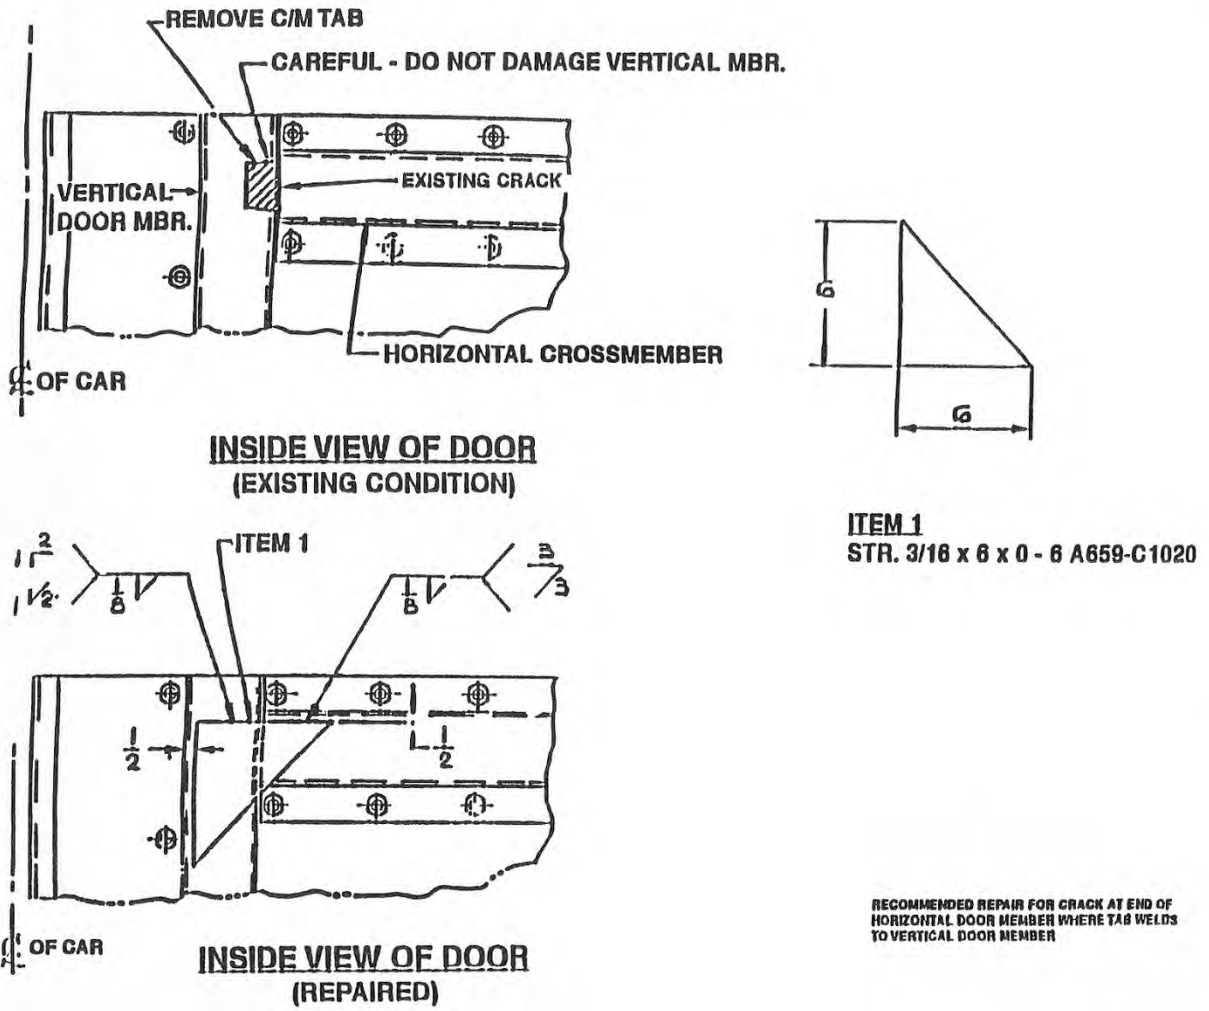

Figure 18
1. If a crack exists in the tab at the end of the horizontal cross member, very carefully remove this tab. Use care so as not to damage or gouge the vertical door member. (Refer to Figure 18 Inside View – Existing Condition)
2. Make a new reinforcement piece as shown (Figure 18, Item 1) using mild steel such as M1020.
3. Clamp the reinforcement to the horizontal member and tack weld in to place. Next, clamp the reinforcement to the vertical member. Use heat if necessary to obtain the proper fit up. (Figure 18, Inside View – Repaired)